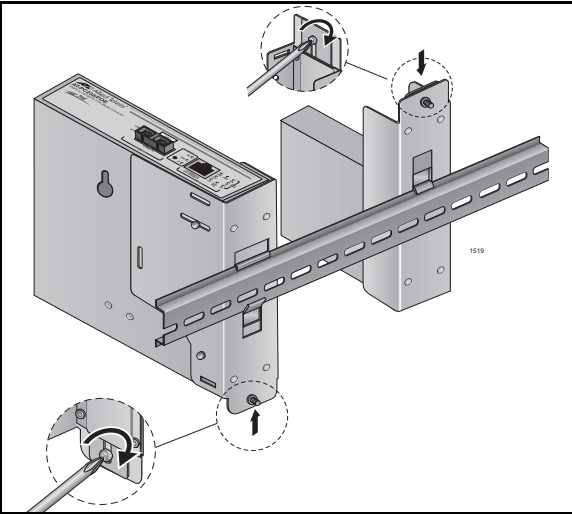

Figure 6 - Mounting the Bracket on the DINRAIL
5. Install the mounting bracket on the DINRAIL. As shown in Figure 6, “Mounting the Bracket on the DINRAIL”, the bracket may be oriented either with the bracket screw above or below the DINRAIL.. Slide the hook towards the DINRAIL until it is snug and then tighten the bracket screw.